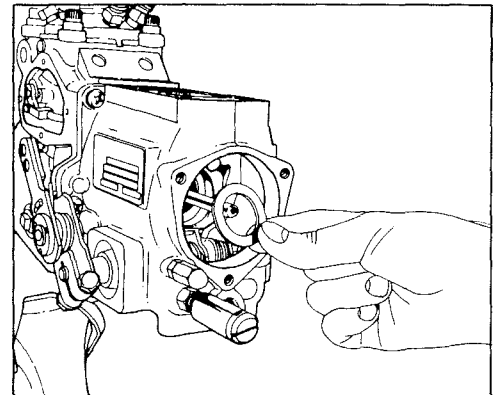

FIGURE 2-210
- (23) Refer to the appropriate calibration data manual sections for the required outer spring precompression value.
- (24) If necessary, add or remove outer spring shims to obtain the required outer spring precompression. (Refer to figure 2-210 above).